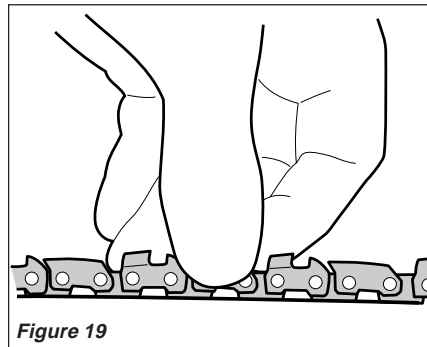

Figure 19
4. Pull the chain by hand along the top of the guide bar several times from the engine to the bar's tip. The chain should feel snug but still pull freely. See Figure 19.